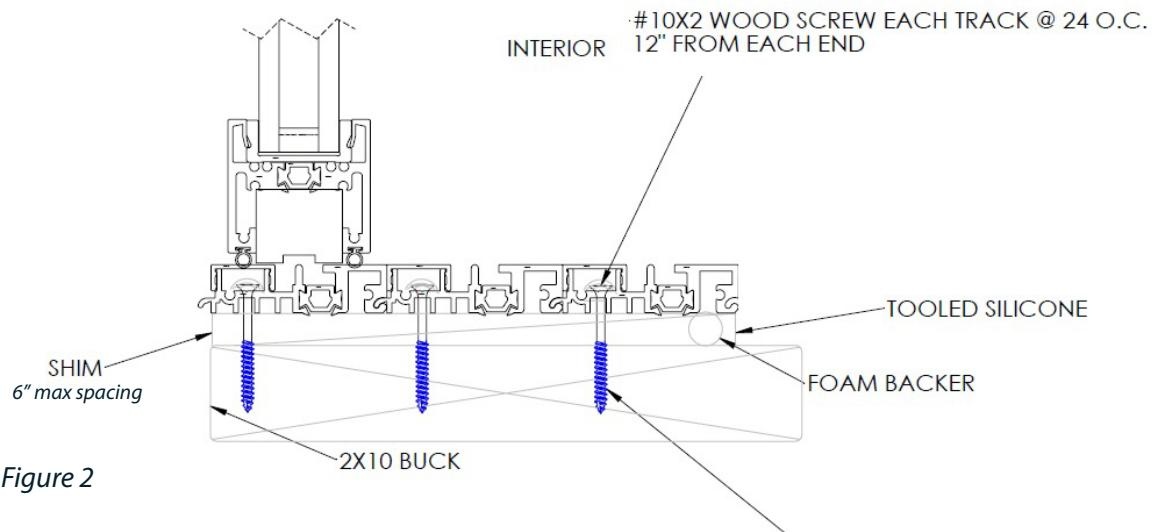

Figure 2
- Sill – 12" from each end and every 24" on center per track. (See Figure 2)